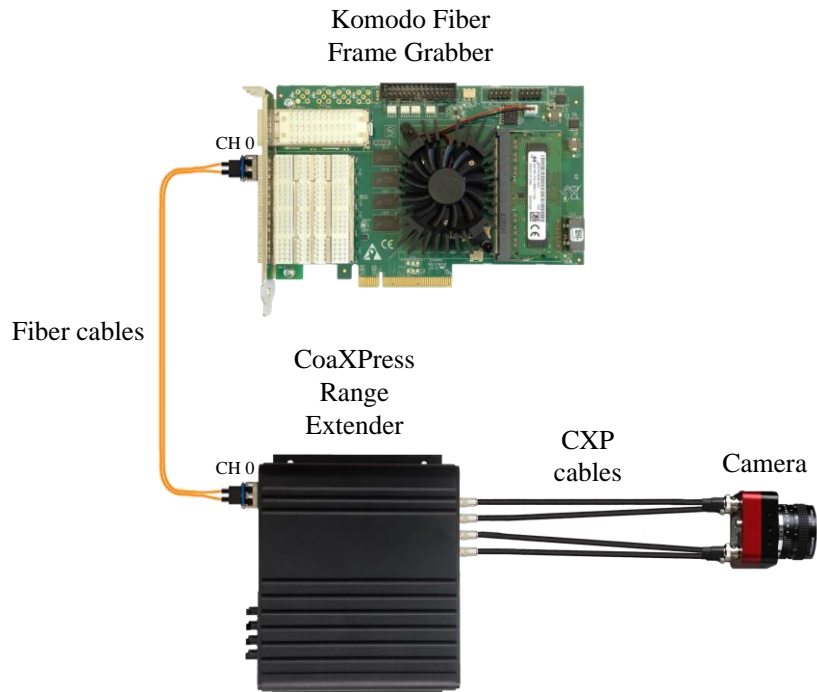
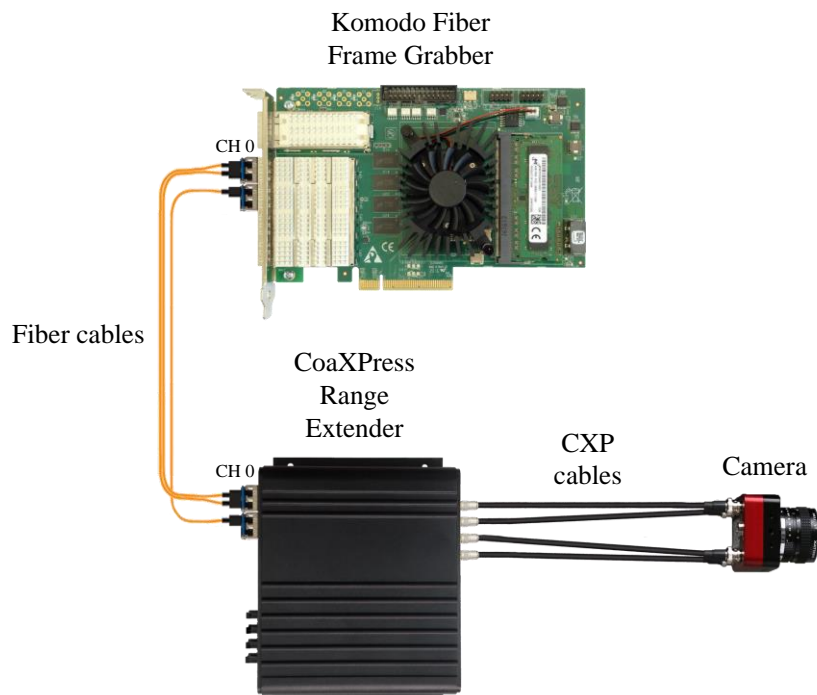
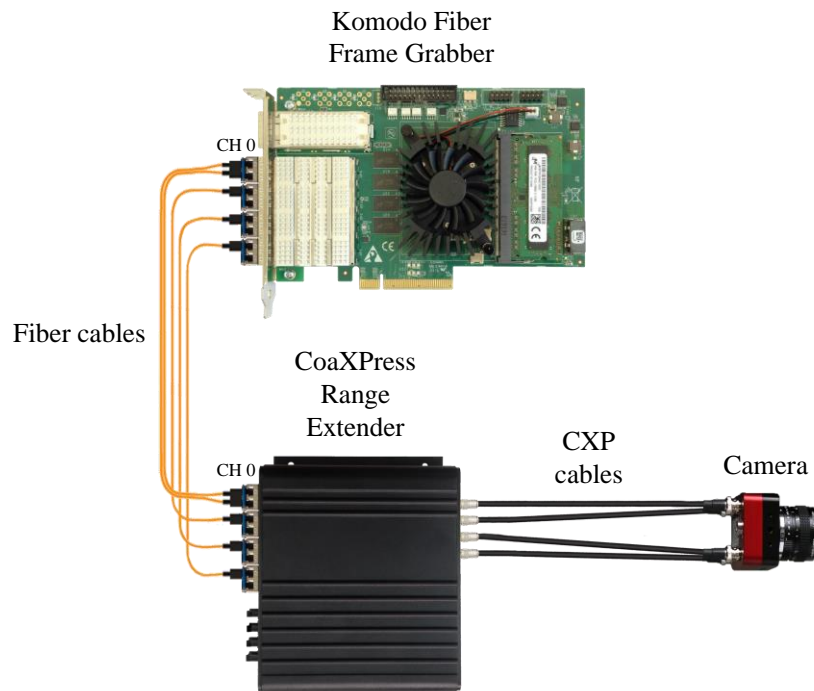

Figure 6: Single connectivity order
Figure 7: Dual connectivity order
Figure 8: Quad connectivity order
4.1. Single connectivity, as described in Figure 6:
4.2 Dual connectivity, as described in Figure 7:
4.3. Quad connectivity, as described in Figure 8:
5. Connect the Coax cables in the right order, as shown in Figure 6, Figure 7 or Figure 8.